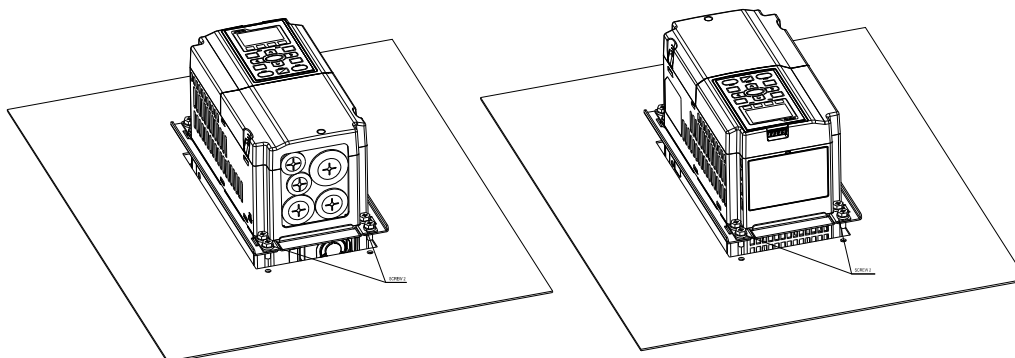

Figure 4
4. Plate installation, place 4 of the screw 2 (M6) (figure 4) through accessory 2 & 3 and the plate then fasten the screws. Screw torque: 25~30 kg-cm / [21.7~26 lb-in.] / [2.5~2.9 Nm]